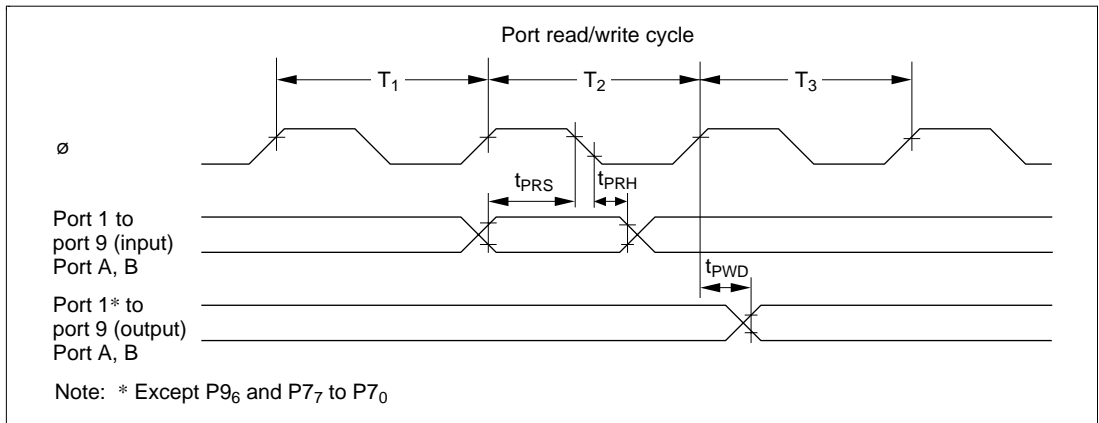

Figure 23.21 I/O Port Input/Output Timing
23.5.7 I/O Port Timing	Figure 23.21